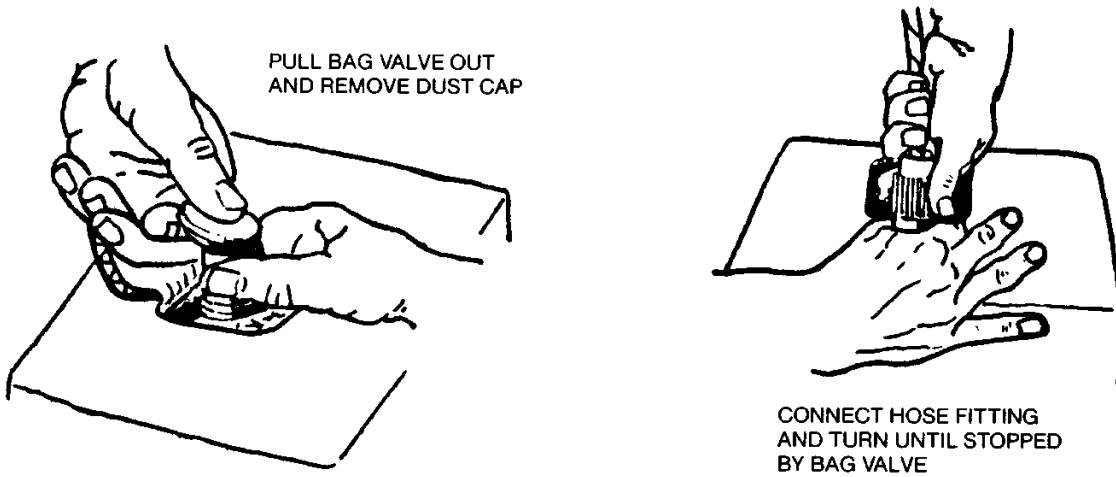

Figure 4
- D. Reach in the box and pull the Bag Valve out. Remove the Dust Cap (see Figure 4).